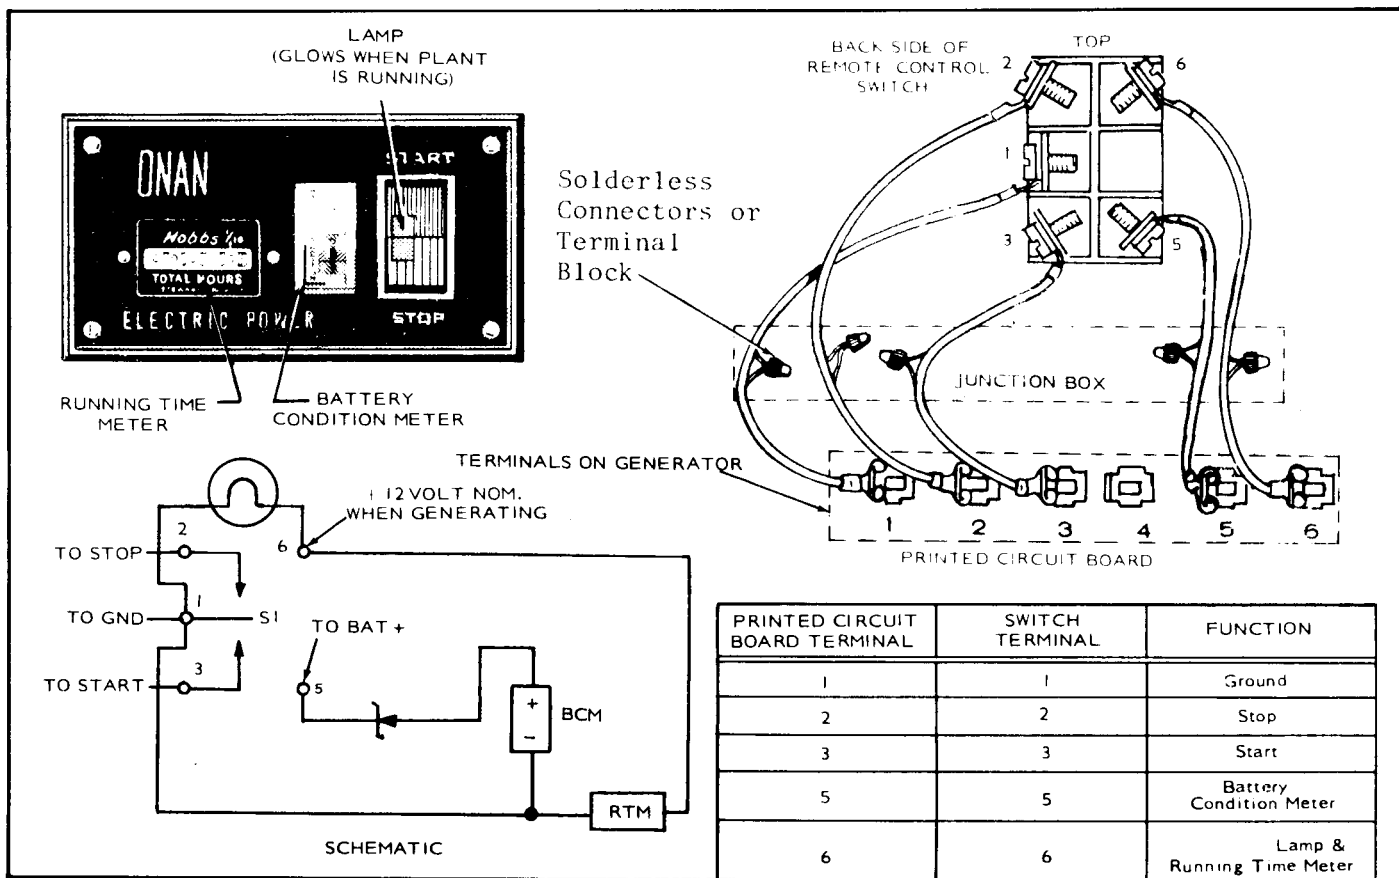

FIGURE 63. DELUXE REMOTE CONTROL (300-0986)
4. Make connections to remote control panel (Figure 63), then secure remote control panel with #5 wood screws.